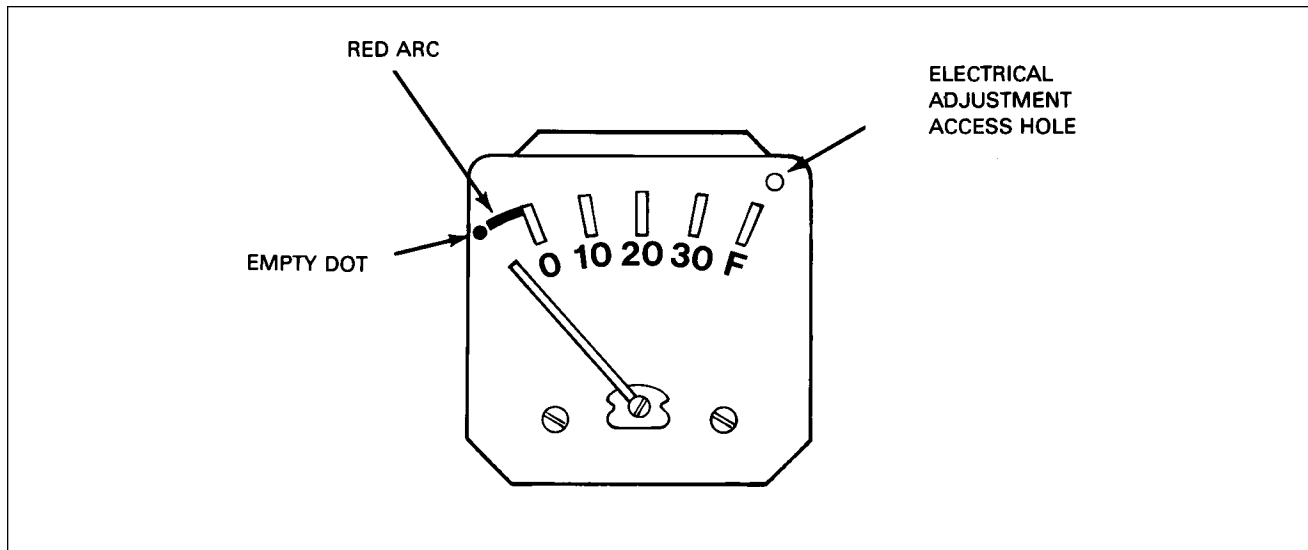

Figure 28-6. Fuel Gauge
9. With the tanks full and master switch "ON", the needle should be centered on the "F" radial mark within ± 2 needle widths. If not within this tolerance, adjust the electrical adjustment (refer to Figure 28-6) just sufficiently to bring it within tolerance; do not center the needle.